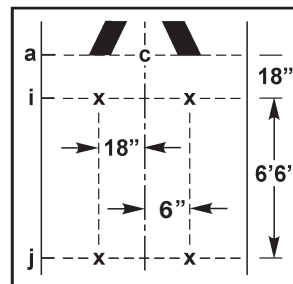

Figure 43
8. Extend the center line “c” 8 feet below the bottom of the “X”. Snap two parallel chalk lines shown as lines “i” and “j”. The distance from line “a” to line “i” is 18 inches (see Figure 43).
9. Mark points on lines “i” and “j” 18 inches to the LEFT of center line “c”. Mark points on lines “i” and “j” 6 inches to the RIGHT of center line “c”. Snap a vertical chalk line to connect these points on lines “i” and “j”. The left edge of the “R”s will be placed onto these lines (see Figure 43).